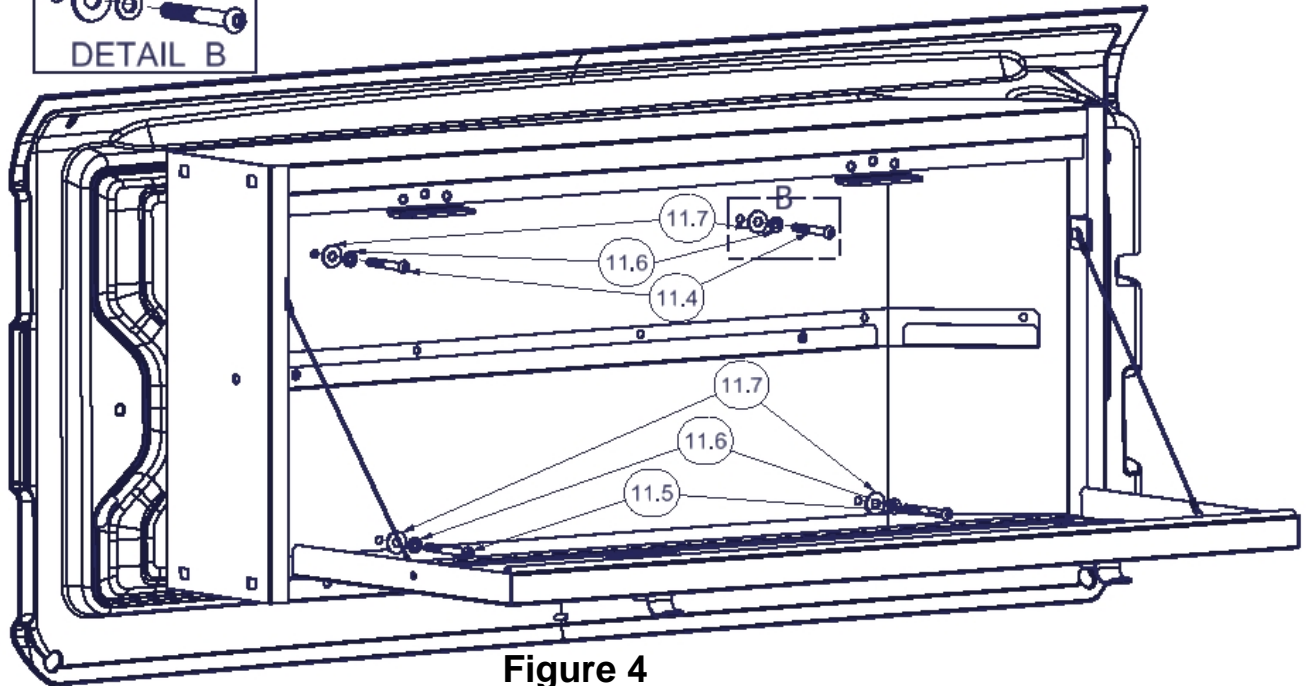

Figure 4
6. While holding the #349 Lockbox in place, insert the mounting hardware through the mounting holes of the Lockbox in the sequence shown in Figure 4. #11.4 Screws (2") are used in the upper mounting holes, and #11.5 Screws (2 3/8") in the lower holes. **NOTE: This step is most easily accomplished with help, or another means of supporting the lockbox at the correct elevation.**